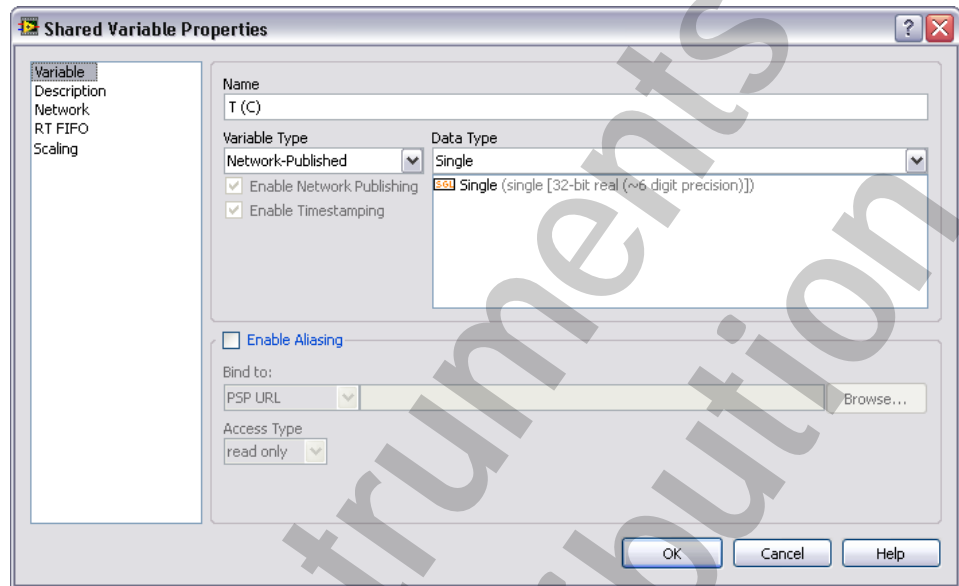

Figure 8-4. T (c) Shared Variable Properties
- ☐ In the Project Explorer, right-click the **cRIO-9074» Variables.lvlib»T (C)** item, and select **Properties** to examine the T (C) network-published shared variable.
- ❑ The Shared Variable Properties window opens. Examine the configuration of the variable, as shown in Figure 8-4.